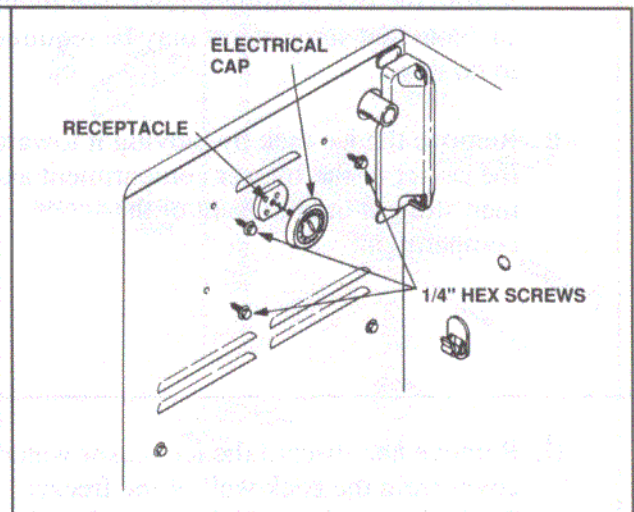

Figure 5
4. Remove three 1/4 inch hex screws and the electrical cap from rear wall of freezer. See Figure 5. Discard the three screws and the electrical cap. The electrical cap is threaded into the ice maker receptacle, and can be removed using a flat screwdriver.